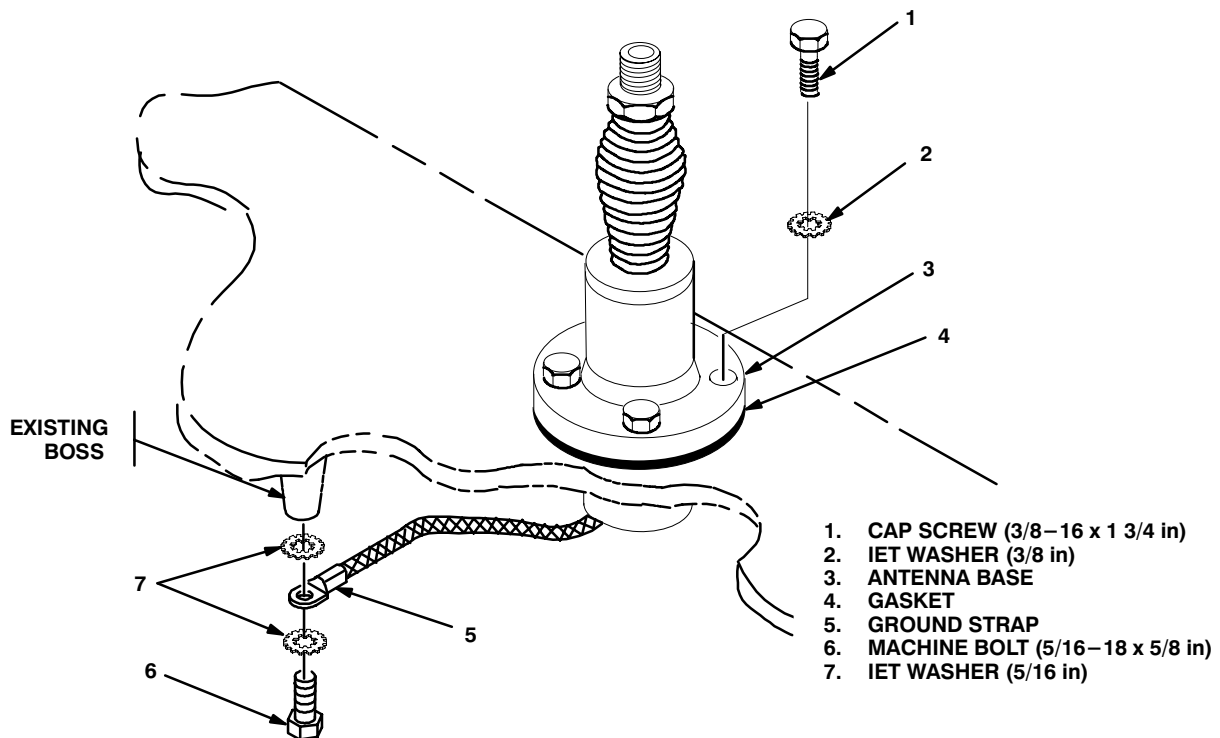

Figure 5-2 (1). Antenna Base Installation: Roadside
a. Gasket (4).	Apply a thin coat of silicone compound to both sides; then place on port and align mounting holes. See figure 5-2 (1).
b. Antenna base (3).	Place on top of gasket (4) and port; then align mounting holes.
c. Four cap screws (1) and four IET washers (2).	Install and secure to antenna base (3) and port.	Tools: 9/16 in socket.
d. Ground strap (5), machine bolt (6) and two IET washers (7).	Install and secure to existing boss on ceiling.	Tools: 1/2 in socket.